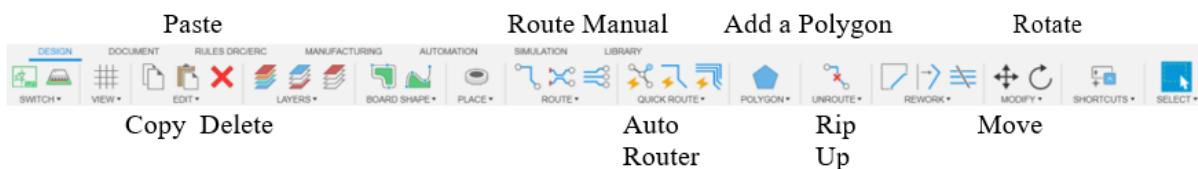
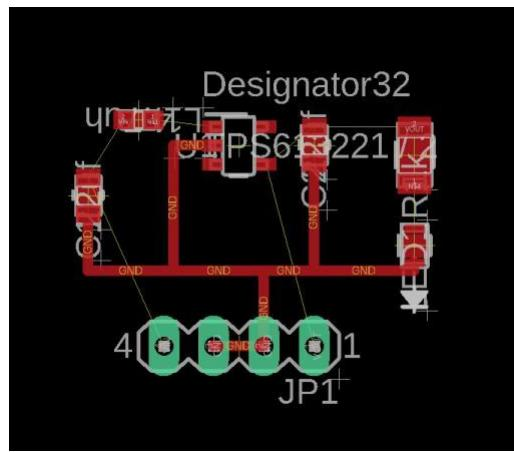

Figure 19: Board Menu / tools.
Figure 21: Board window showing the ground air wires manually routed with 20 mil traces.
3.18: Using the move tool, we must place the parts onto the board. Figure 18 shows one part placed onto the board using the move tool with the other parts yet to be moved. Figure 19 shows all the parts placed and oriented on the board (rotate tool) on the board. The maze of interconnecting air wires is known as a ratsnest (still not traces yet).
3.19: Figure 19 gives some of the tools available on the board menu. Using the route manual tool , we will route the traces for each component. Select the route manual tool and in its top menu change the width from **6 mils** default to **20 mils** and for the trace that connect to LED pads, the width should be **16 mils** due to the small pad's footprint. Pick an air wire in the schematic to create its trace. Do not use the auto router tool to route your traces. If you make a mistake, you can use the rip up tool to remove the trace. Figure 21 shows the result of routing the ground air wires with 20 mil traces.